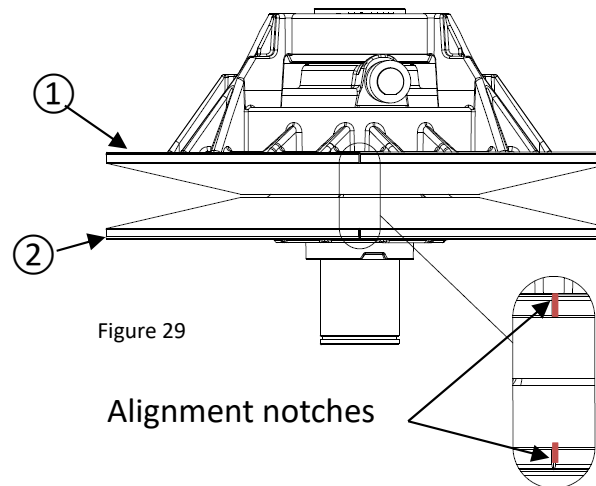
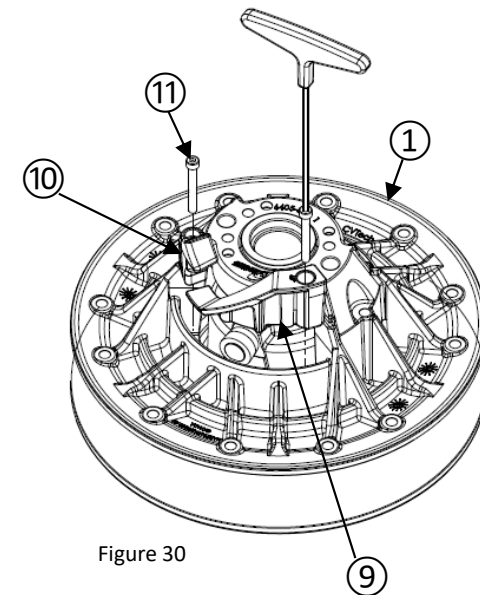

Figure 29
Figure 30
- Insert the sliding sheave ② on the fixed sheave ① and make sure that the alignment notches are aligned (see figure 29).
- Insert the 2 forward ramps ⑨ and the 2 helix ⑩ in the fixed sheave ①.
- Torque the 4 screws ⑪ to 3,5 Nm (see figure 30).